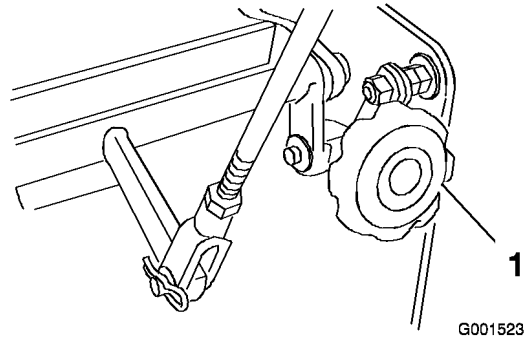

Figure 42
- If the unit tracks to one side or the other, turn the quick track knob. Turn the knob right to steer right and turn the knob left to steer left (Figure 42).